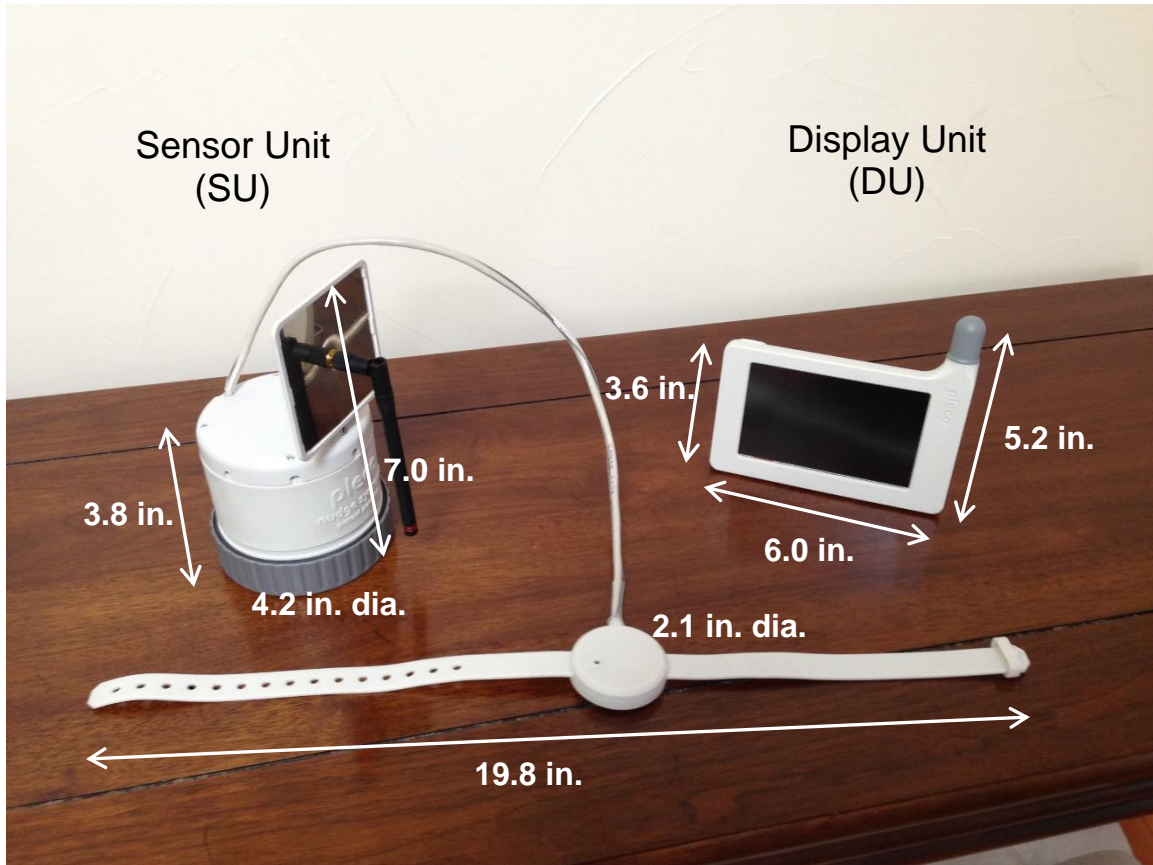

Fig. 3: Pleco product main dimensions
The Pleco product consists of a Display Unit (DU) and a Sensor Unit (SU) as shown in Figure 3. Both units are required for operation. The main dimensions of the DU and SU are shown in the figure.